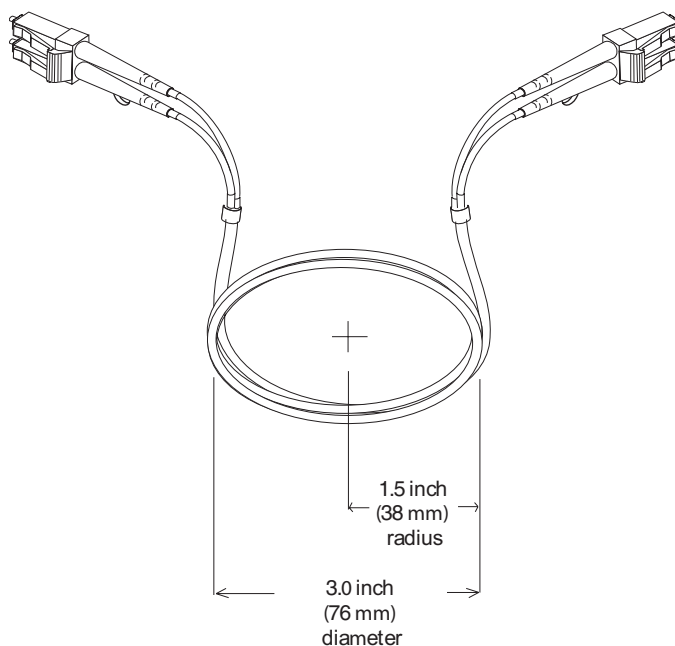

Figure 25. Bending and looping specifications for fiber-optic cables
- When storing excess or unused fiber-optic cables, do not bend the cables to a diameter of less than 76 mm (3 in.), or a radius less than 38 mm (1.5 in.) or wrap them around themselves. See Figure 25 on page 50.